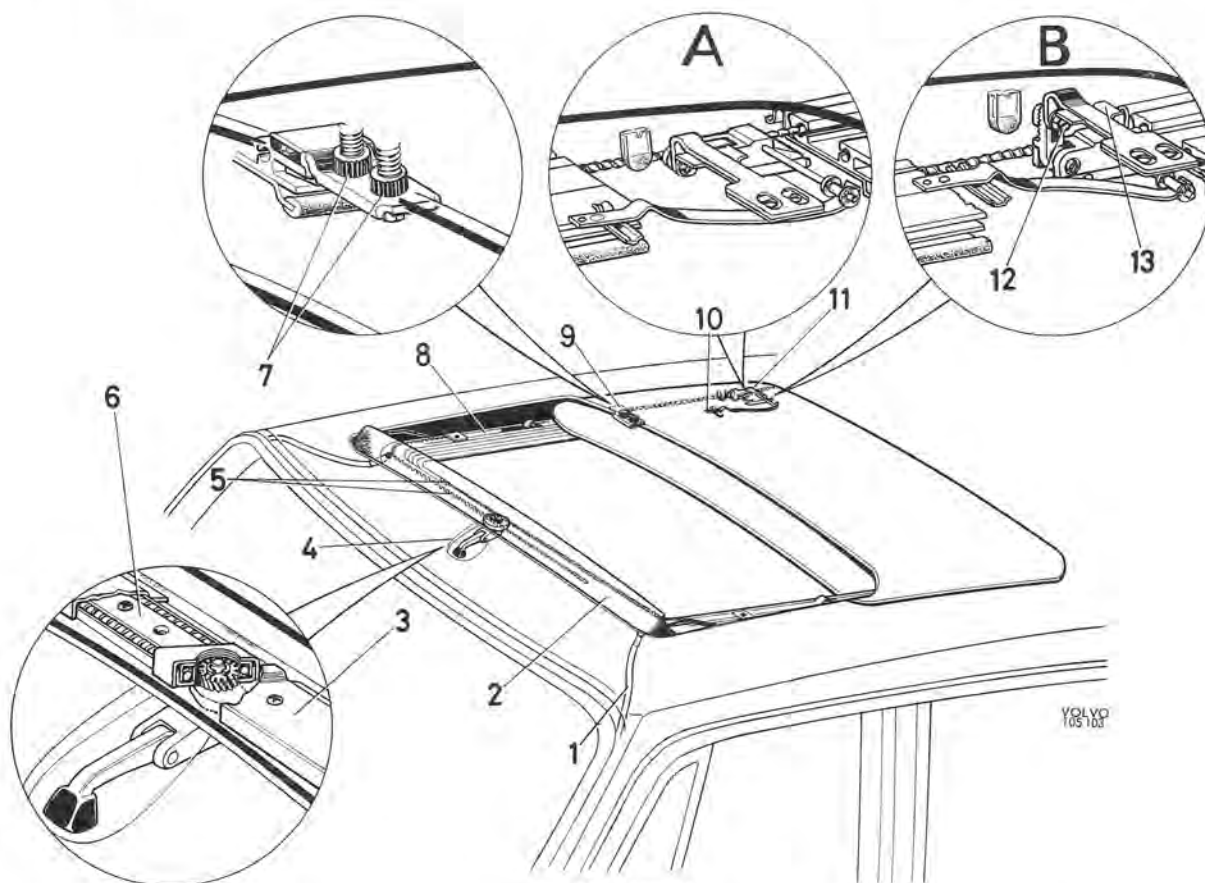

Fig. 8-23. Sunroof
2. Crank the sunroof forwards and slacken the screws at its four attachments (9 and 11, Fig. 8-23). Bend the blade springs (10) to the one side and remove the reinforcing plates (13) at the rear attachments. Lift off the sun-roof.
3. Remove the wind deflector (2).
4. Remove the intermediate pieces (8), covering strip (3) and holders above the drive. Release the front guide rails (6) and pull out the cables (5).